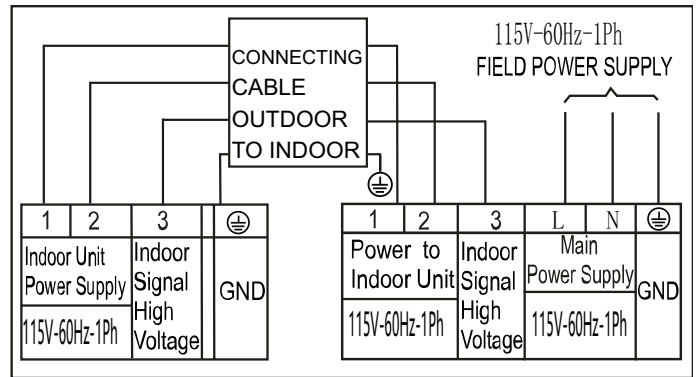

Fig. 25 — Connection Diagram (115V)
8. Connect the wiring from the outdoor unit per the connection diagram (see Figure 25 - Figure 26).